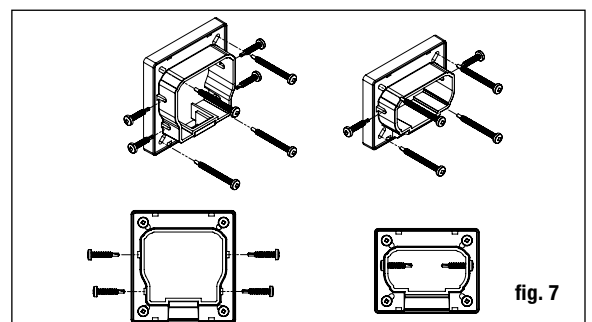

fig. 7
**Step 9** Place the line rail bracket covers and line brackets on the ends of the bottom rail and prop the bottom rail between the posts using blocks cut to size. Check the rail for level. Using the line bracket as a guide, mark the screw positions on the post sleeve and rail on both ends. Pre-drill 1/8" pilot holes through the post sleeve and rail. Attach the line bracket to the post sleeve using the #8-15 x 2" - #2 square drive pan head screws and then attach line bracket to rail using #10 x 3/4" - #2 square drive pan head self-drilling screws (fig.7)
**Step 11** Place the line rail bracket covers and line brackets on the ends of the top rail. Position the top rail by placing the balusters inside the routed holes, while working from one end to the other. Check the rail for level. Using the line bracket as a guide, mark the screw positions on the post sleeve and rail on both ends. Pre-drill 1/8" pilot holes through the post sleeve and rail. Attach the line bracket to the post sleeve using the #8 x 2" - #2 square drive pan head screws and then attach line bracket to rail using #10 x 3/4" - #2 square drive pan head self-drilling screws (fig. 7).